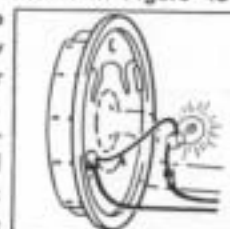

Figure 43
First inspect the brake linings for wear. If a lining is worn to the rivets it should be replaced. Inspect for uneven lining wear patterns such as shown in Figure 43, and replace if this condition exists. Wear patterns such as this
2. Open circuit in at least one magnet. Check the current flow in each brake as shown in Figure 43.